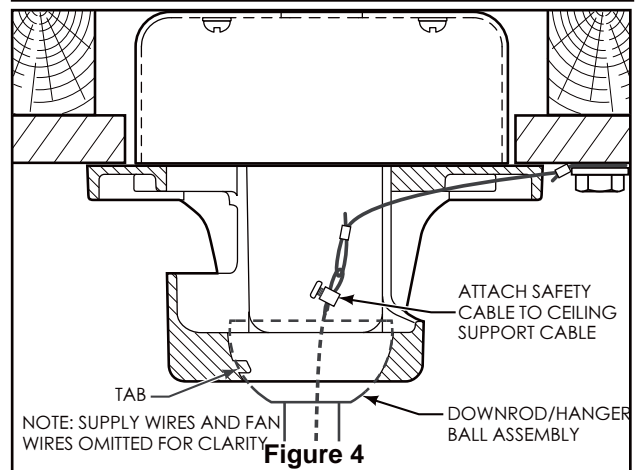

Figure 4
4. Remove the four stabilizer tabs and plastic bag from the motor. Discard the stabilizer tabs. (Figure 4)
4. Carefully lift the fan and seat the downrod/hanger ball assembly on the hanger bracket that was just attached to the ceiling joist. Be sure the groove in the ball is lined up with tab on the hanger bracket. (Figure 4)
5. Attach the safety cable to ceiling support cable. Slide cable clamp onto safety cable (from fan). Place the end of cable through the loop of ceiling support cable. Pull as much cable through loop as possible. Feed end of cable into clamp hole and firmly tighten screw (Figure 4). Cut off excess safety cable.
3. Connect wires using connectors as shown in Figure 4.
6. To set the remote code with a small screwdriver or ball point pen (neither included), slide dip switches firmly up or down to same as receiver unit. (Figure 4)